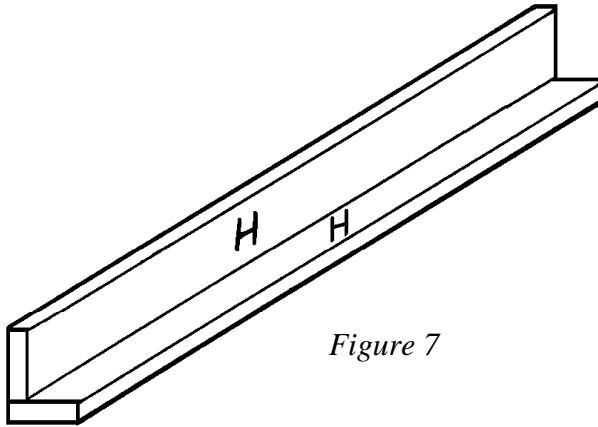

Figure 7
2. Start by gluing two legs (H) together at a 90-degree angle, as shown in *Figure 7*. Secure with 1-1/4" screws spaced about 6" apart along the joint.